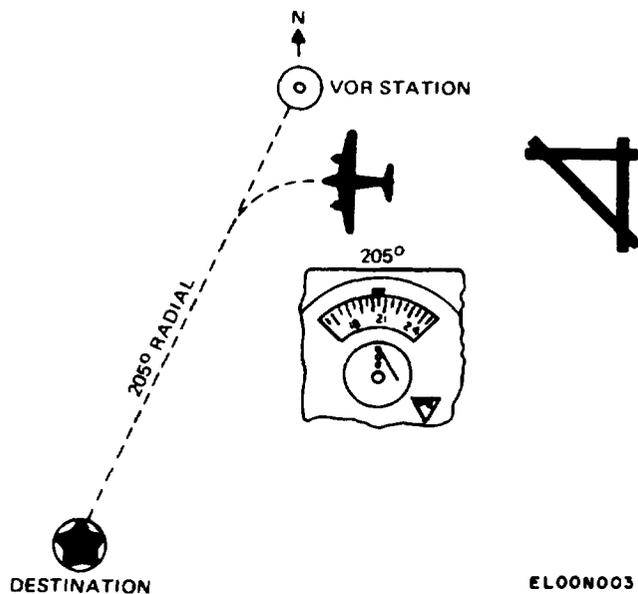

Figure 2-1. Flying From VOR Station.
*a. Flying From VOR Station.* If the direction to a certain position (fig. 2-1) is known with respect to a VOR station, that position can be reached as follows:
- (1) Tune the receiving set to the VOR station frequency.
- (2) Set the course card (in the illustrated example 205° radial) so that the desired direction of travel away from the VOR station is beneath the course index.
- (3) Fly generally toward the destination. When the to/from indicator indicates FR, fly in the direction which centers the VOR/localizer needle.
- (4) When the VOR/localizer needle is centered, the aircraft is on the line from the station to the destination. By flying in the direction originally determined and keeping the VOR/localizer needle centered, the destination will be reached.